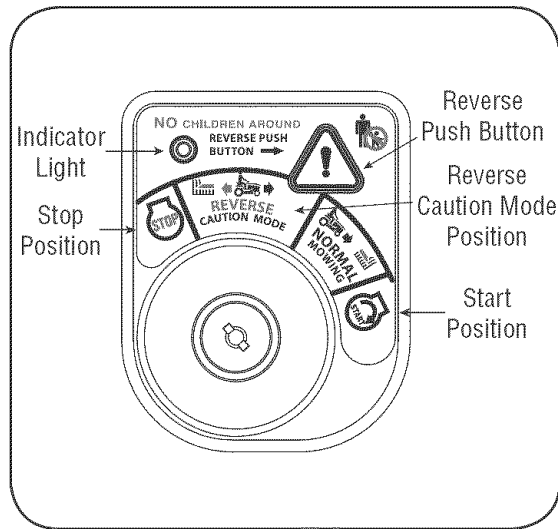

Figure 9
2. Turn the key from the **NORMAL MOWING** (Green) position to the **REVERSE CAUTION MODE** (Yellow) position of the key switch module. See Figure 9.
3. Depress the **REVERSE PUSH BUTTON** (Orange, Triangular Button) at the top, right corner of the key switch module. The red indicator light at the top, left corner of the key switch module will be **ON** while activated. See Figure 9.